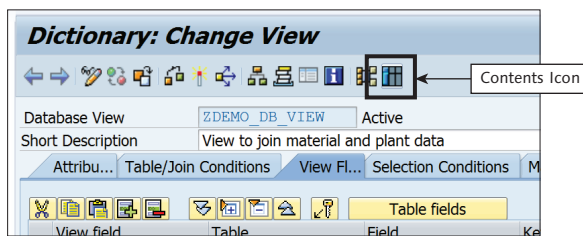

Figure 10.39 Contents Icon
8. You can execute the view by clicking on the CONTENTS icon in the application toolbar, as shown in Figure 10.39.